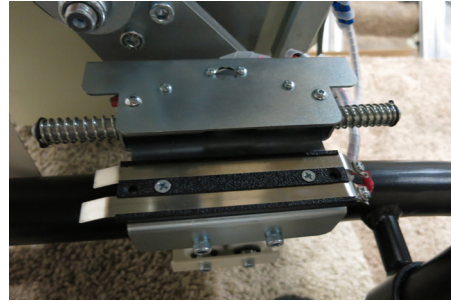

Figure 3-16
1. Ensure that the charging strips are oriented on the top of the bottom rail. *See Figure 3-16.*